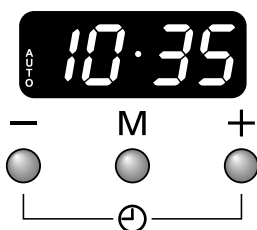

Fig. 5.10
- Press the the [+] and [-] buttons simultaneously, then the mode [M] button. The display will show 'ton1,2 or 3' (Fig. 5.10).